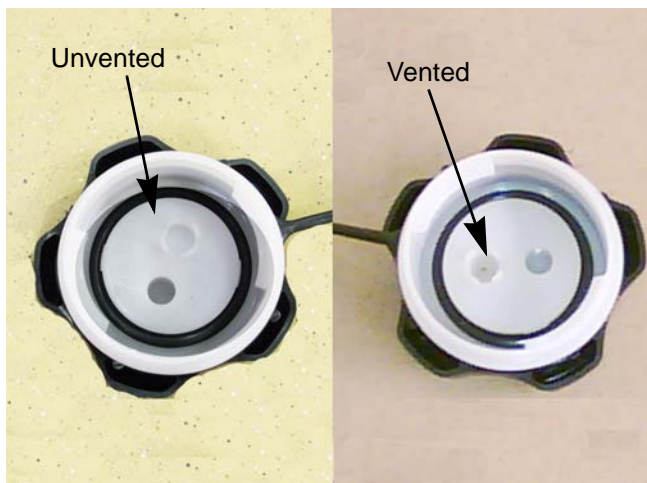

Figure 4.22
**NOTE:** A vented gas cap must be used with the EVAP fuel tank. See Figure 4.22.